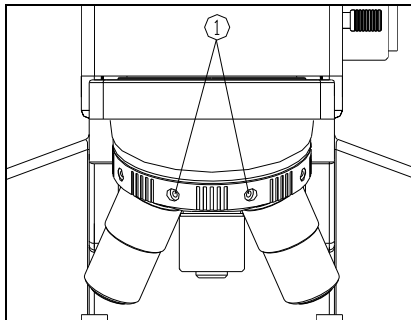

Fig.21
All the objective centers could be adjusted. When adjusting, plug the two 1.5mm hexa spanners into the hexa bolthole on the corresponding objective nosepiece circle (see Fig. 21①). Adjust the objective center, superpose it with the rotary center of the rotatable stage.